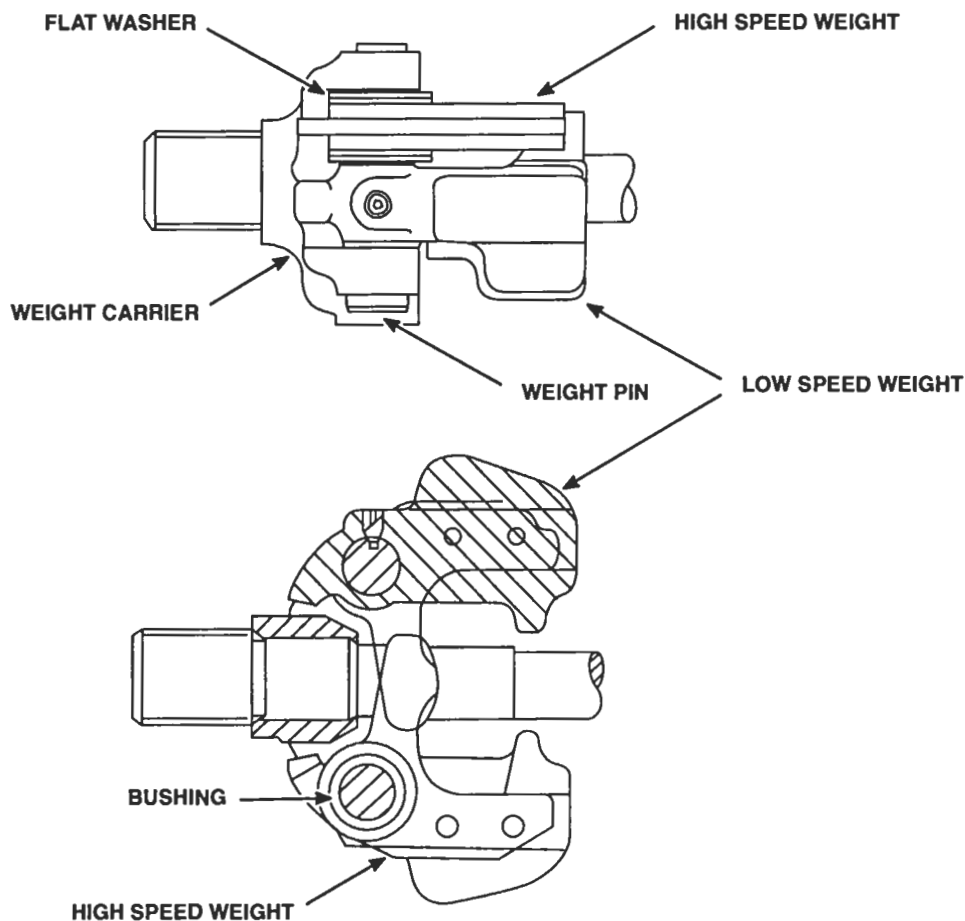

Figure 6. Cross Section of Governor Weight for Double Weight Governor
6. Support the control housing as shown in Figure 6 in Section 2.7.1. Press the operating shaft from the operating fork with a brass rod. Withdraw the shaft, lever and bearing as an assembly from the control housing.
7. If removal of the weights from the carrier is necessary on the double weight governor, (Figure 6.) remove the retainer from the weight pin. Press the pin from the low speed weights. The high speed weight is not a press fit.